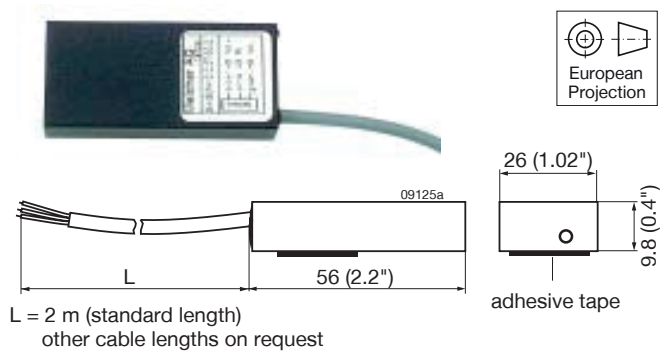

Fig. 50
- Different battery sensors S-KSMH... for using the converter as a battery charger. Different cell characteristics can be selected; see fig. 50, table 27, and *Battery Charging/Temperature Sensors*.